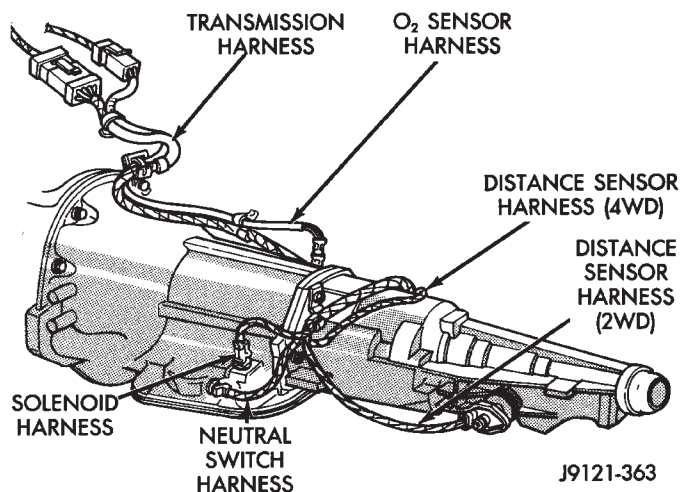

Fig. 13 Transmission Wire Harness Identification
- (1) Shift transmission into Neutral.
- (2) Raise vehicle.
- (3) Remove gearshift and throttle levers from shaft of valve body manual lever.
- (4) Disconnect and remove neutral switch.
- (5) Disconnect valve body overdrive and converter clutch solenoid wires at case connector (Fig. 13).